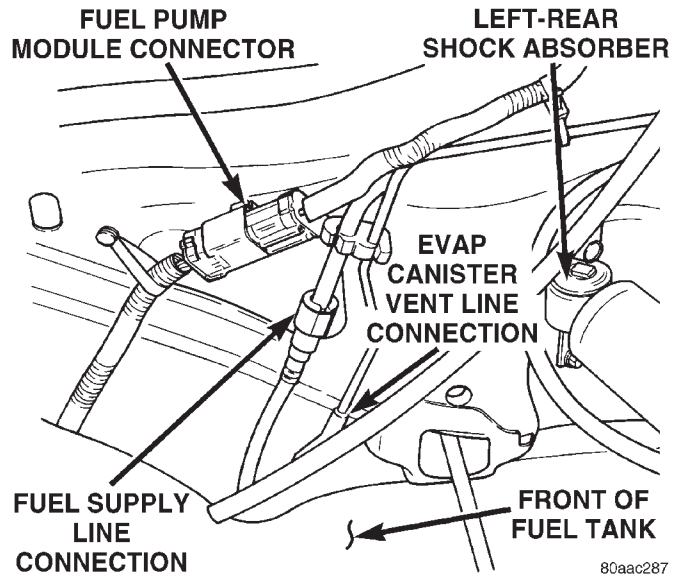

Fig. 35 Fuel Tank Connections at Front of Fuel Tank
- (9) Disconnect fuel supply line from fuel extension line near front of fuel tank (Fig. 35). Refer to Fuel Tubes/Lines/Hoses and Clamps in this group. Also refer to Quick-Connect Fittings for procedures.
- (10) Disconnect EVAP canister vent line near front of tank (Fig. 35).
- (11) Disconnect fuel pump module electrical connector (pigtail harness) near front of tank (Fig. 35). Harness connector is clipped to body.